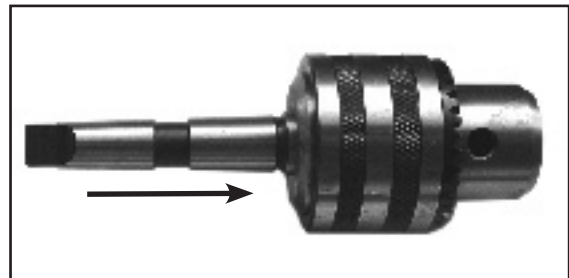

Figure 11
2. Insert the arbor (A-Fig. 11) into the chuck (B-Fig. 11) as shown. Make sure that the arbor end and receiving tapered hole in the chuck body rear are clean of grease, oil, rust protection and any burrs or scratches that disrupt the taper surface.